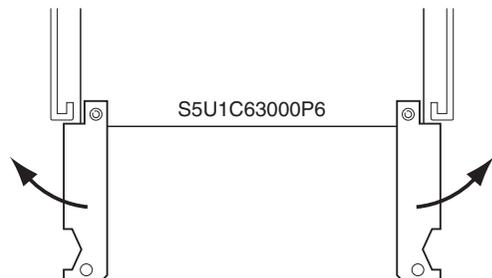

Figure 2.1.3 Dismounting S5U1C63000P6
- (1) Unfasten the screws located on the left and right sides of the front panel of the ICE (S5U1C63000H2/H6) by turning them counterclockwise, and then remove the front panel.
- (2) Insert the S5U1C63000P6 board into the ICE along its uppermost guide rails until the tip of the board touches the back of the ICE. If some other board is mounted on the uppermost guide rails, remove that board by using the jig supplied with the ICE before you insert the S5U1C63000P6 board (see Figure 2.1.3).
Set the jig included with the ICE into position as shown in Figure 2.1.3. Using this jig as a lever, push it toward the outside of the board evenly on the left and right sides. After confirming that the S5U1C63000P6 board has been dismantled from the backboard connector, pull the S5U1C63000P6 board out of the ICE.